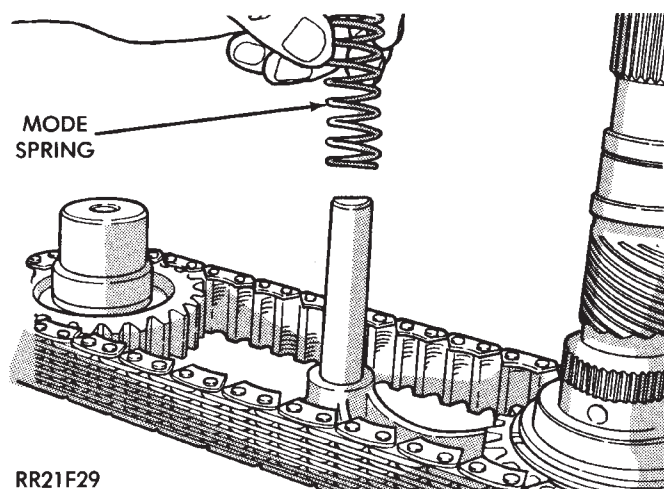

Fig. 54 Installing Mode Spring
(38) Install mode spring on shift rail (Fig. 54).
(39) If front output shaft rear bearing is to be replaced, install new bearing as follows: